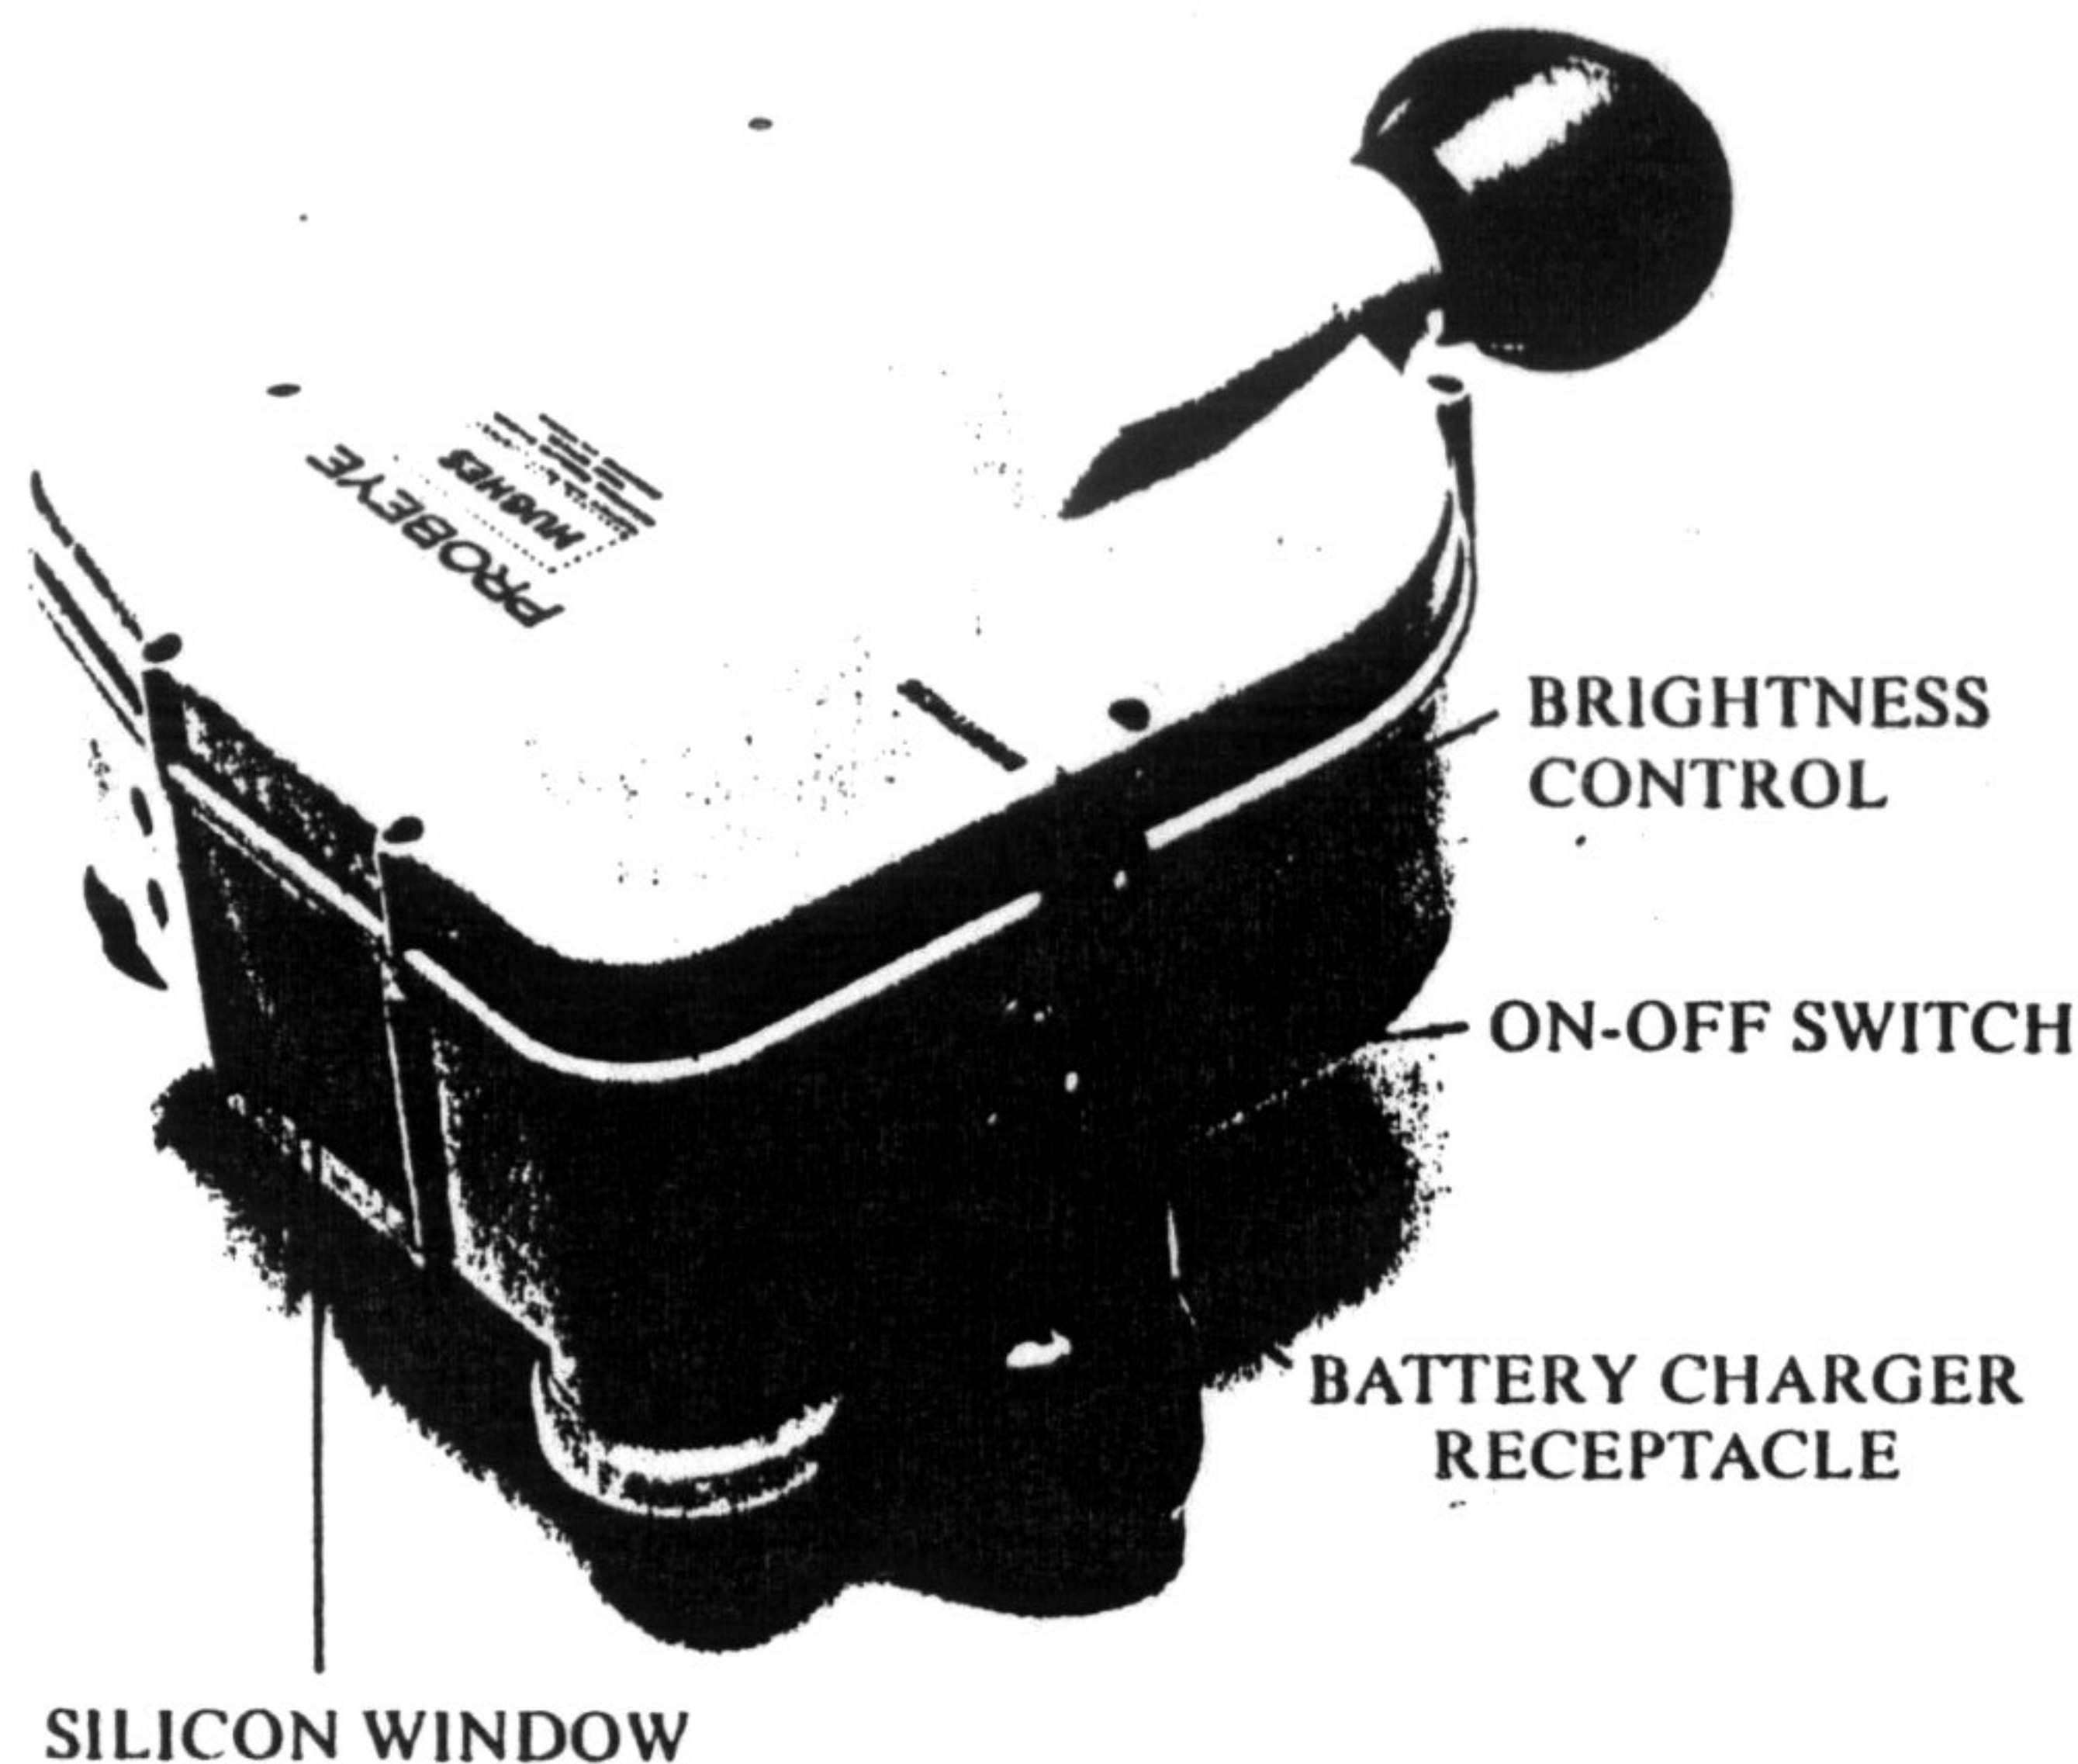

FIGURE 3
- E. When the detector has fully cooled, turn the ON-OFF switch to the ON position (Fig. 3).
- G. Adjust the BRIGHTNESS control (Fig. 3) to the desired level; smaller temperature differences are resolved as this control is rotated clockwise.
- B. Insert the 7-pin plug from the battery charger into the mating receptacle on the left side of the housing; see Fig. 3.